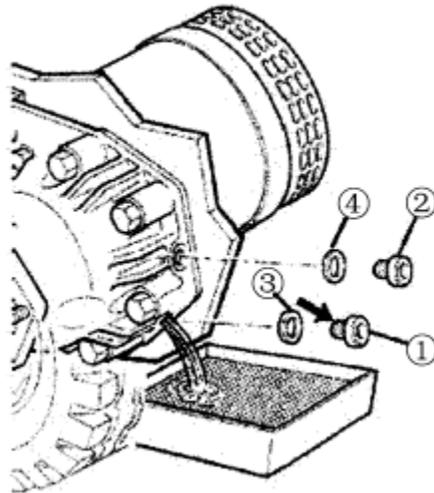

Figure 1-11
(1) Unscrew fluid filling plug (part 3) with sealing ring (part1) , and let the gear oil out completely. Before screw fluid filling plug again, remove the dust on the plug. It is necessary to replace the sealing ring if it is damaged.
(2) Unscrew fluid filling plug (part 4) with sealing ring (part 2) .
(3) Add gear oil to transmission box. During adding, air is not permitted to enter for bubble may be produced in the transmission box.
(4) Fluid capacity approx. 0.45 liters (standard value) . The exact oil amount is determined by funnel.
(5) Gear oil model may be MOBIL ATF200 or ATF210 or ATF220; SHELL DONAXTM or ATFDEXRON II D-21666 or DONAXTG PLUSD-22543 or DONAXTG D-21126; ESSO TYPESUFFIXA or ATF D-21065 or ATF D-21611 or ATF D-22079.
(6) Screw fluid filling plug (part 1) with the sealing ring (part 2) .Tightening torque: 22Nm. Refer to figure 1-11.